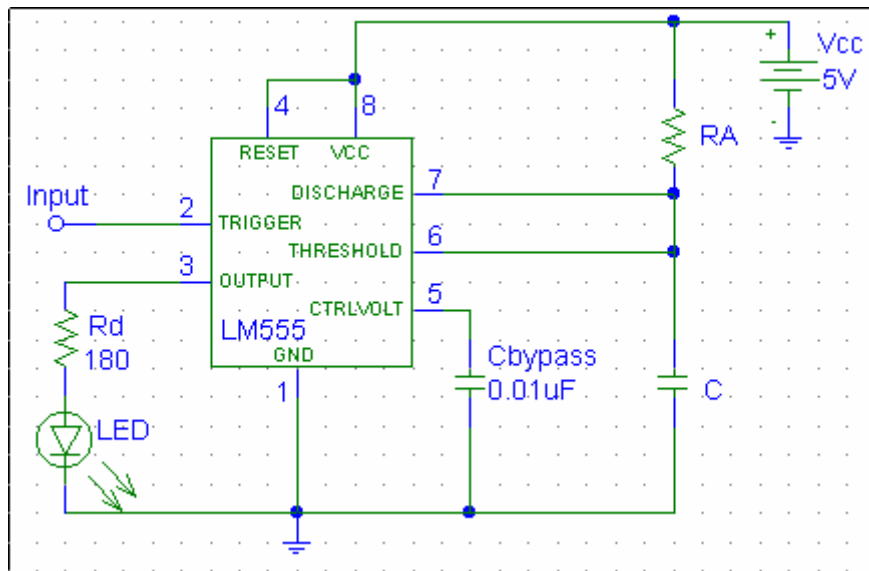

Figure 2 – LM555 “One-shot” Schematic
- Design a monostable multivibrator (“one-shot”), referring to Figure 2 below. The hold time (i.e., the amount of time the circuit will hold its output in a high state) will be 1 second, and will light a Light-Emitting Diode (LED). Choose  $C$  to be  $68\mu\text{F}$ .
- ❑ Build circuit 2 using the schematic (Figure 2), and your values of  $R_A$  and  $C$